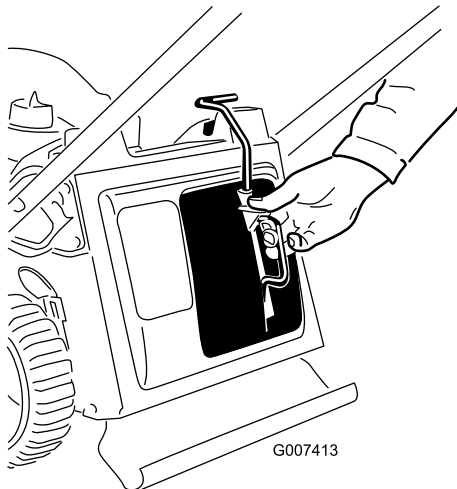

Figure 10
2. Squeeze the button on the lever with your thumb, and fully insert the mulch plug into the opening (Figure 10).